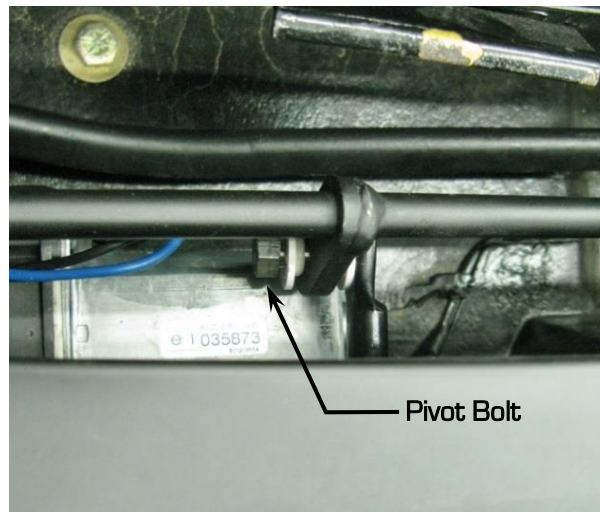

Figure 5 – Remove Pivot Bolt
6. Also remove the pivot bolt holding the limit switch linkage to the wiper door assembly (Figure 5 on the next page). Be careful not to lose the flanged bushings. Pull the limit switch linkage forward out of the way. Disconnect the wiper door limit switch connector. The harness side can be removed from the vehicle as this will not be re-used. The DSE harness comes with replacement wiring and an OEM style molded connector to plug back into the limit switch upon re-installation of the wiper door.